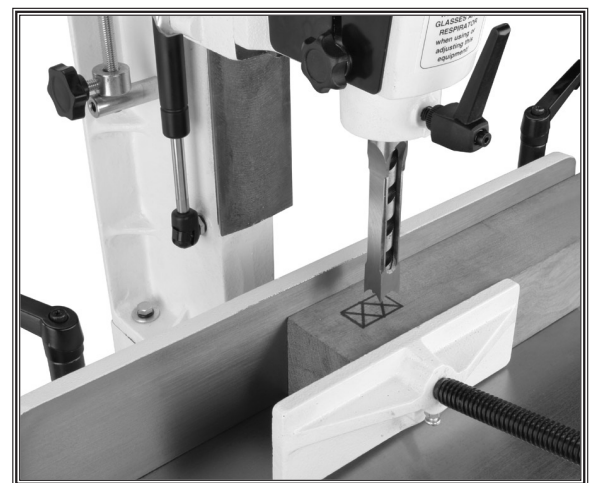

Figure 14. Aligning the mortising chisel.
2. Use the table controls to align the mortising chisel with the layout lines (see **Figure 14**) and set the depth and table stops.